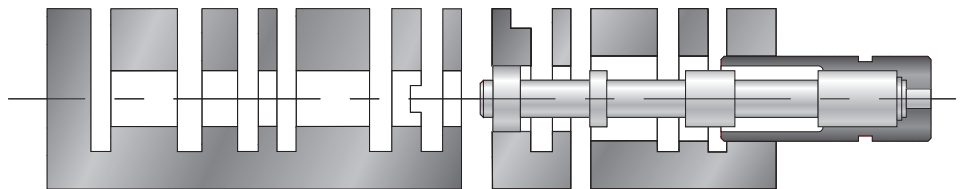

Figure 1
2. Remove bypass control plunger from the bypass control sleeve. Use the sleeve as a Go/No-Go gauge, as illustrated in Figure 1. With a close-fitting sleeve and valve assembly, align for an on-center insertion into the bore.